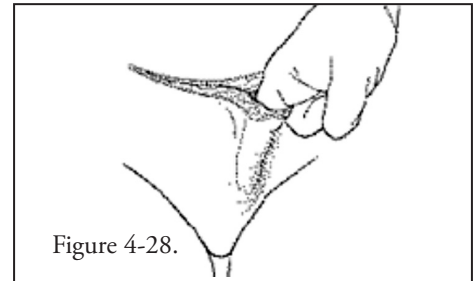

Figure 4-28.
13. To implant the control pump in the scrotum or labium, use blunt dissection to create a dependent subdartos pouch. The control pump should be placed on the same side where the pressure-regulating balloon was placed. (Figure 4-28)